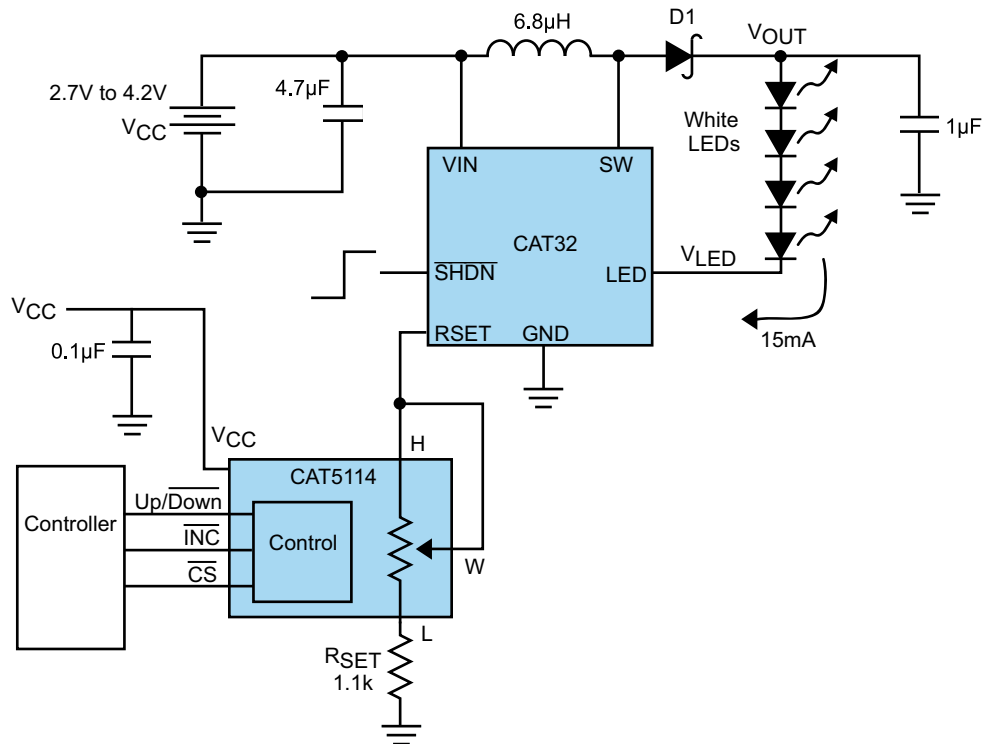

Figure 1. CAT32 LED Driver with CAT5114 Potentiometer Circuit Diagram
This application brief shows a DPP circuit used in combination with the CAT32 white LED driver. The digitally programmable potentiometer is connected as a 2-terminal variable resistor, as shown on Figure 1. The potentiometer Wiper-to-Low resistor (between W and L pins) is connected in series with the R_{SET} resistor to adjust the LED brightness. This example uses a 32-tap linear potentiometer, the CAT5114, with a end-to-end resistance of 50kΩ. The wiper terminal (W) position is controlled through a 3-wire interface. The INC input increments the wiper in the direction which is determined by the logic state of the Up/Down input. The CS input is used to select the device and also store the wiper position prior to power down.